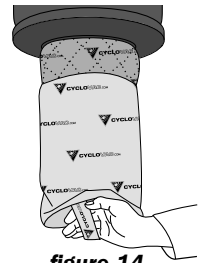

figure 14
2. Then, use the straps at the base of the filters to withdraw (**figure 14**) We recommend cleaning the anti-clogging filter (thin fabric) every time the dust receptacle is emptied. You may either shake it out, or wash it. The thick filter should be cleaned after four anticlogging filter cleanings, or approximately once a year.